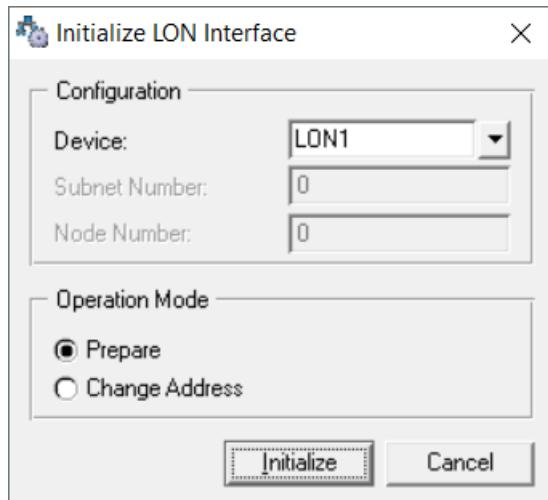

Figure 9: Initialize PCLTA-card dialog
- If the configuration includes only one PC-NET, the Initialize dialog is displayed, see Figure 9.